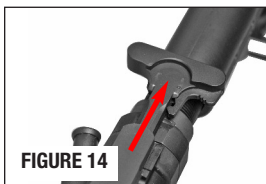

FIGURE 14
- Pull the charging handle all the way back (FIGURE 14) and press the bottom of the bolt catch down (FIGURES 15 or 16) and release pressure on the charging handle. This will lock the bolt in the open position.